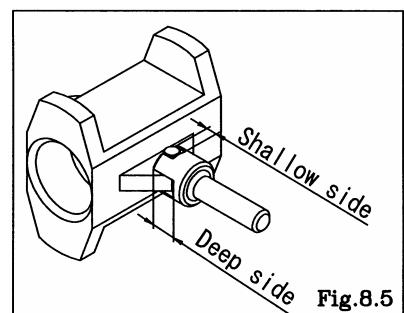

Fig.8.5
- Attach the trip arm in a way that the valve switcher and pin fit in each groove on the trip arm. [Fig.8.5]